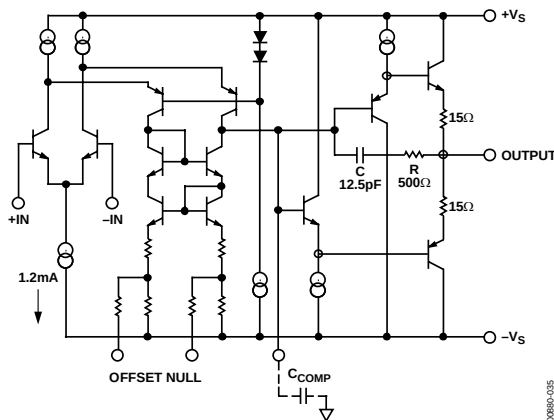

Figure 35. Simplified Schematic
The AD829 is fabricated on the Analog Devices, Inc., proprietary complementary bipolar (CB) process, which provides PNP and NPN transistors with similar f_T s of 600 MHz. As shown in Figure 35, the AD829 input stage consists of an NPN differential pair in which each transistor operates at a 600 μ A collector current. This gives the input devices a high transconductance, which in turn gives the AD829 a low noise figure of 2 nV/ $\sqrt{\text{Hz}}$ at 1 kHz.
An RC network in the output stage (see Figure 35) completely removes the effect of capacitive loading when the amplifier compensates for closed-loop gains of 10 or higher. At low frequencies, and with low capacitive loads, the gain from the compensation node to the output is very close to unity. In this case, C is bootstrapped and does not contribute to the compensation capacitance of the device. As the capacitive load increases, a pole forms with the output impedance of the output stage, which reduces the gain, and subsequently, C is incompletely bootstrapped. Therefore, some fraction of C contributes to the compensation capacitance, and the unity-gain bandwidth falls. As the load capacitance is further increased, the bandwidth continues to fall, and the amplifier remains stable.